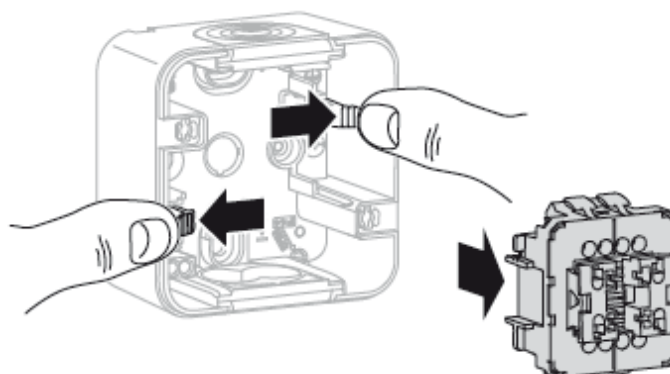

Figure 4
- Press mountings (7) outwards on each side and remove the insert (4) from the housing bottom part (Figure 4).